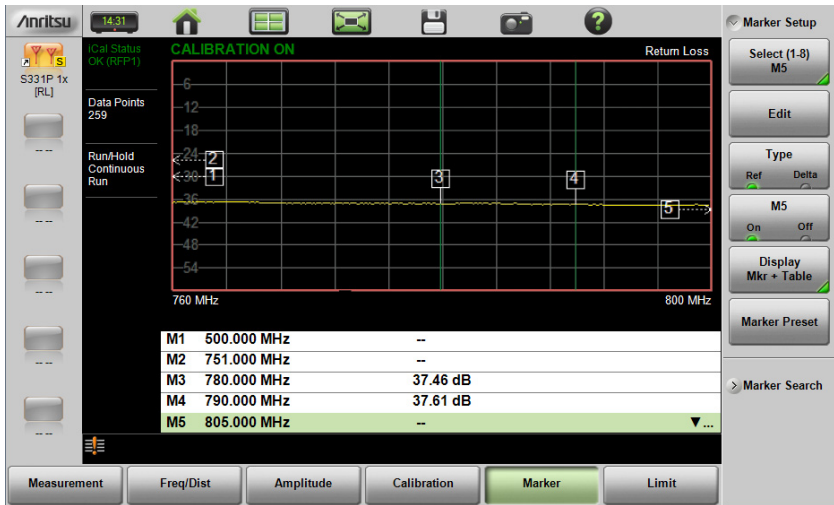

Figure 3-28. Markers 1, 2, and 5 are Out of Range
- If the frequency (F1 or F2) or distance (D1 and D2) parameters are moved inside a current marker location, the out-of-range (---> or <----) indicator is displayed and marker values in the table are blanked (--). See Figure 3-28 for an example of markers outside the current span.